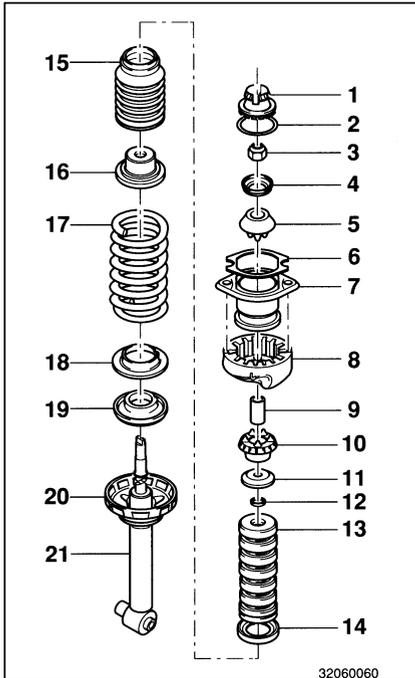

Figure 6 Rear suspension strut (front-wheel drive)
- Unscrew the strut (Figure 6/1) from the axle body.
- Unscrew the self-locking hexagon nut (Figure 6/3) of the piston rod and remove the components.